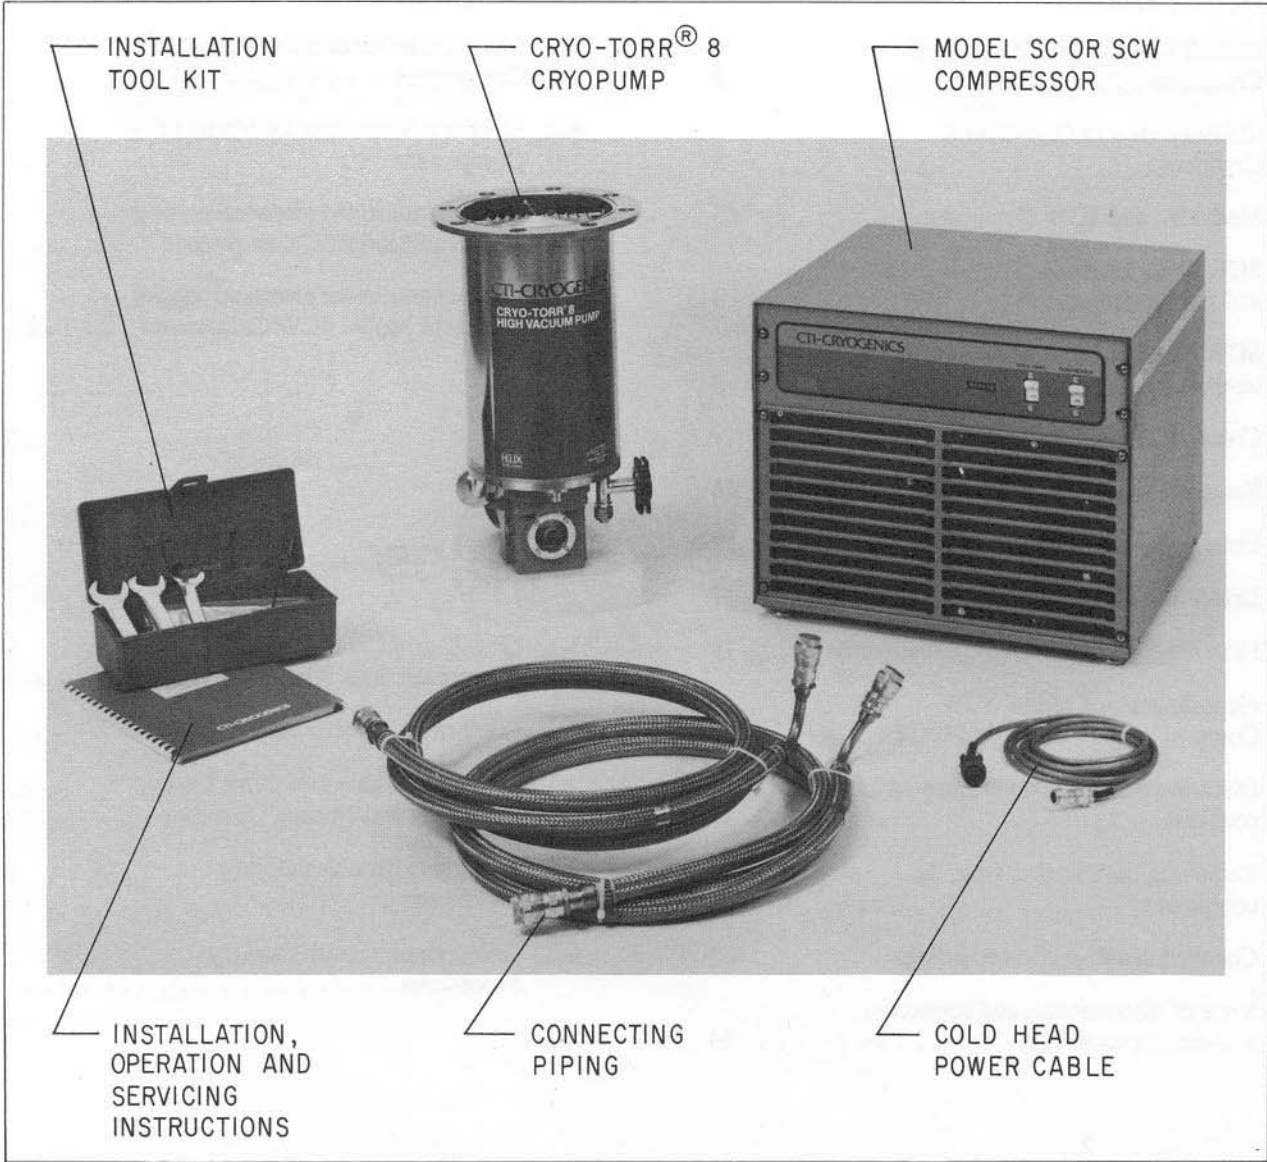

Figure 1.1 Cryo-Torr^(R) 8 High-Vacuum Pumping System
The Cryo-Torr^(R) 8 High-Vacuum Pump, shown in Figure 1.1, provides fast, clean pumping of all gases in the 10^{-3} to 10^{-10} torr range. It operates on the principle that gases can be condensed and held at extremely low vapor pressures, achieving high speeds and throughputs.